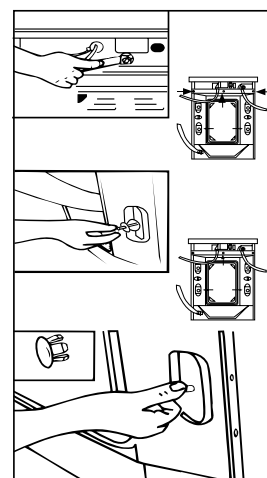

Fig. 2
- Dismantle the packing bolts as shown in Fig. 2.